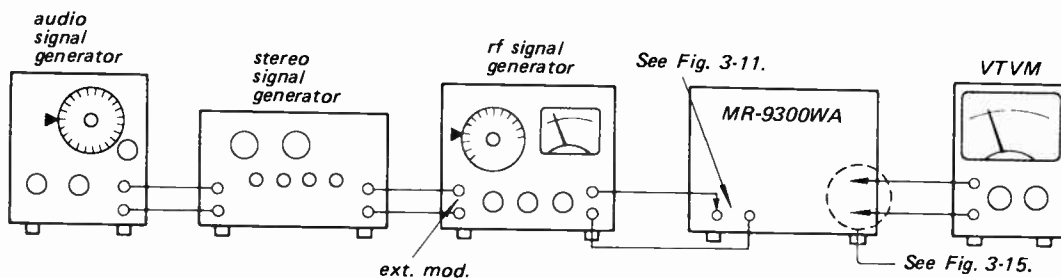

Fig. 3-14. Trap coil adjustment setup
- Terminal of FM EXT ANT as shown in Fig. 3-14.